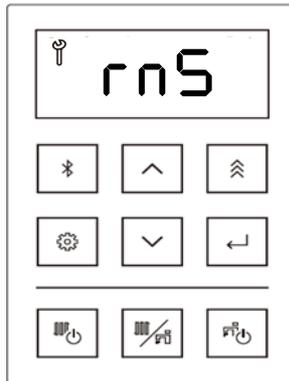

Figure 143
10. After 60 minutes flushing time completes, display shows “rnS” (rinsing) (Figure 143) and beeping sound is observed.